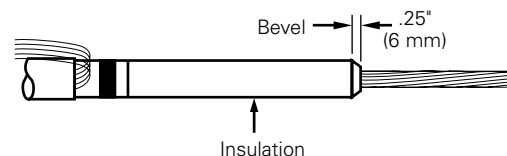

Figure 7. Line illustration of insulation bevel.
- Remove sharp edge of insulation by beveling at a 45° angle for approximately .25" (6 mm). (Refer to Figure 7.)